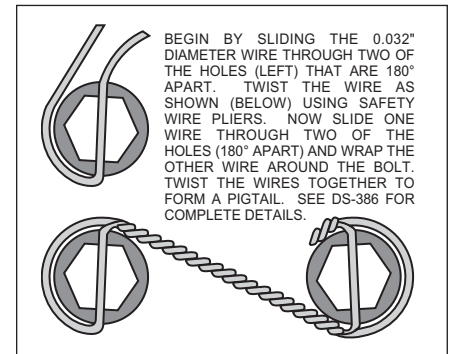

Figure 3. Safety Wire Diagram
- Pack the small outer bearing cone (13) with high temperature disc brake bearing grease and install into the front side of the hub (6). Lightly coat the spindle bearing surfaces with bearing grease. Slide the hub assembly (5, 6, 7, 8 and 13) onto the spindle. Secure using spindle washer (14), existing adjusting nut and nut locking device. Adjust wheel bearing pre-load per Original Equipment Manufacturer (OEM) specifications.
- Install the o-ring (15) and the dust cap (16) into the hub (6). Friction created by the o-ring (15) on the dust cap (16) keeps it from unscrewing. The O.D. of the existing spindle washer may be larger than the I.D. of the dust cap (16) which may allow the washer to contact the dust cap (16). Use the spindle washer (14) supplied with the kit instead of the stock washer.
- With the larger I.D. side of the rotor (9) facing away from the hat (11), bolt rotor (9) to hat (11) through the backside of the rotor using bolts (10). Torque bolts (10) to 180 **in-lb**. Safety wire bolts (10) using standard 0.032 inch diameter stainless steel safety wire as shown in Figure 3. Please refer to Wilwood's data sheet DS-386 (available at [www.wilwood.org/ds386.pdf](http://www.wilwood.org/ds386.pdf)) for complete safety wire installation instructions.
- Slide the rotor/hat assembly (9, 10 and 11) over the wheel studs (5) in the hub (6) taking care to align the small countersunk holes in the hat (11) with the small threaded holes in the hub (6) Install three flat head socket head screws (12) through the small holes in the hat (11) and torque to 85 **in-lb**.